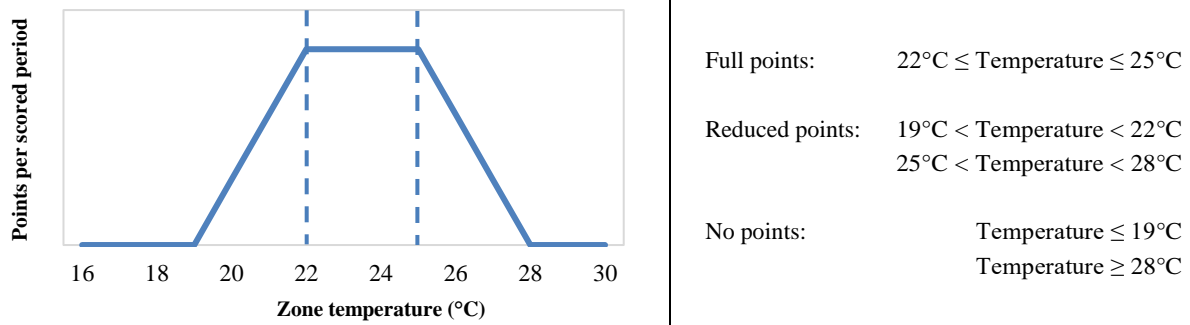

Figure 1 Scoring function for the Temperature Subcontest
- a. Reduced points are earned if the time-averaged interior dry-bulb temperature is between 19°C and 22°C or between 25°C and 28°C. Reduced point values are scaled linearly, as shown in Figure 1.